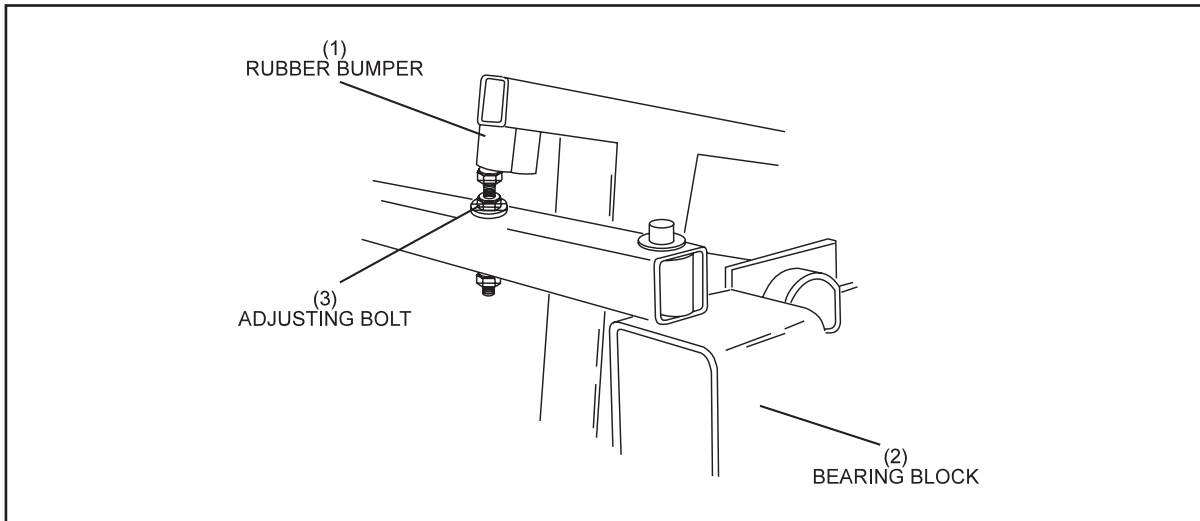
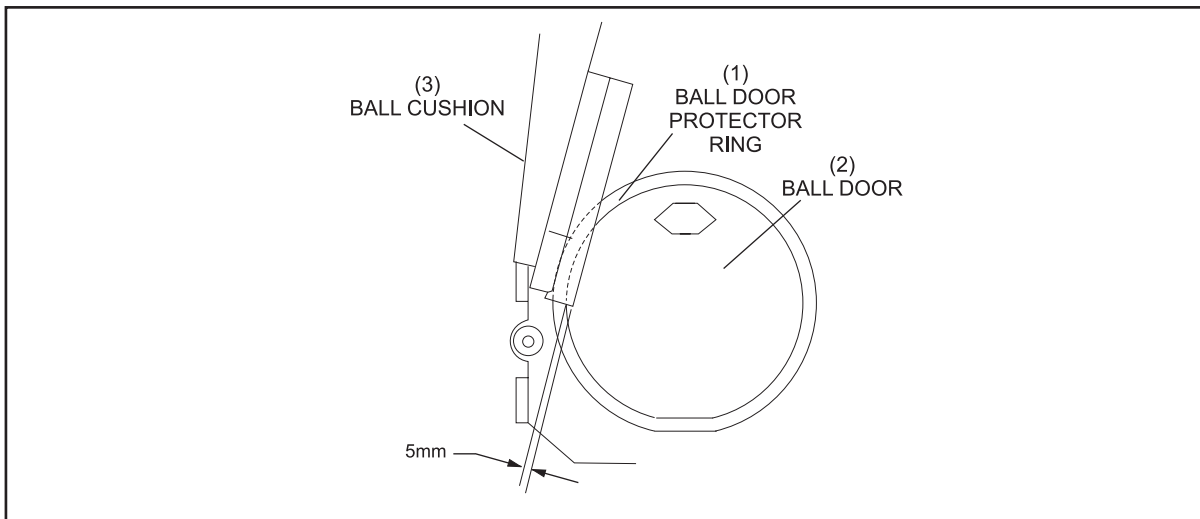

Figure 5-6. Ball Cushion Adjusting Bolt
Figure 5-7. Ball Cushion Positioning
1. Using the adjusting bolt shown in Figure 5-6, adjust the ball cushion so the front of the cushion is 5 mm in front of the ball protector ring. This will position the ball so it will enter through the ball door without touching the protector ring. Refer to *Figure 5-7*.